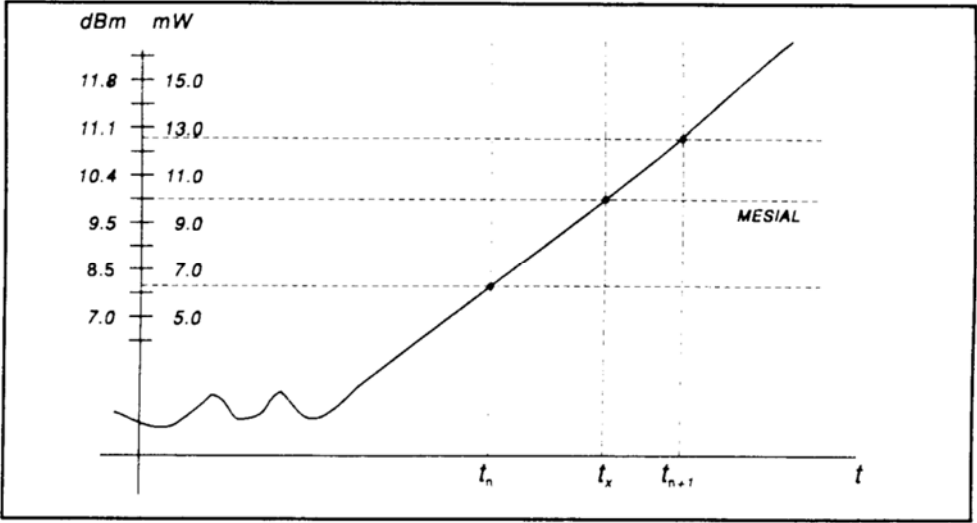

Figure 5-3 Time Interpolation example
10. The process determines horizontal position, in pixels, at which the signal crosses the mesial value. This is done to a resolution of 0.1 pixel, or 1/5000 of the screen width. Ordinarily, the sample values do not fall precisely on the mesial line, and it is necessary to interpolate between the two nearest samples to determine where the mesial crossing occurred. This process is illustrated in the example shown in Figure 5-3.